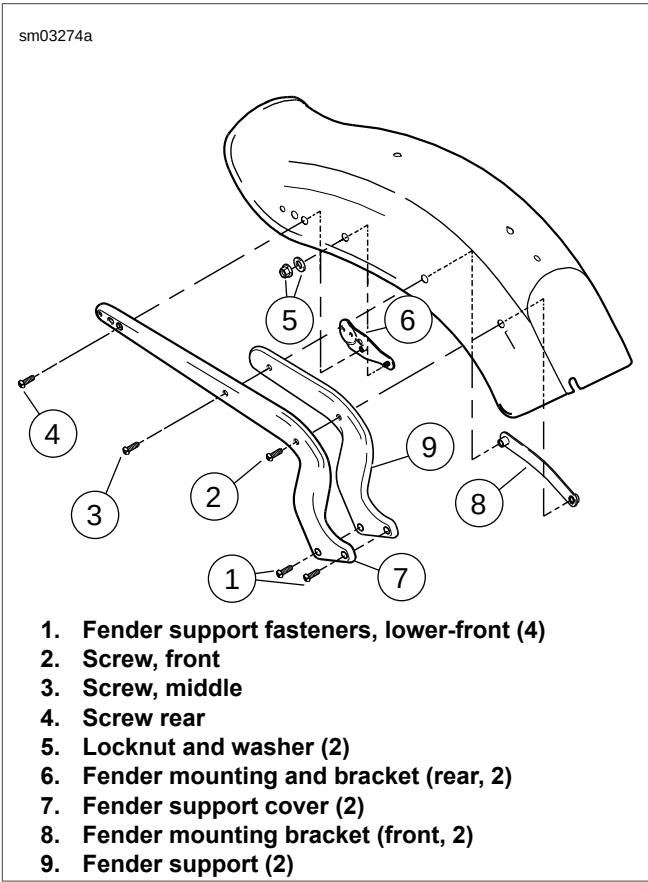

Figure 2-109. Rear Fender: FXST
7. See Figure 2-109. Loosen but do not remove fender support fasteners (1).
8. Remove front fender screw (2) from front fender mounting bracket (8).
9. Remove middle fender mounting screw (3) from front fender mounting bracket.
10. Remove rear fender mounting screw (4) from rear fender mounting bracket (6).
11. Remove fender support fasteners (1). Remove fender support cover (7) and fender support (9).
2. See Figure 2-109. Carefully place the fender into position.
- b. Tighten fasteners (1) to an initial torque of 30-35 ft-lbs (40.7-47.5 Nm).
- c. Loosen fasteners (1) and final-tighten to 38-42 ft-lbs (51.5-56.9 Nm).